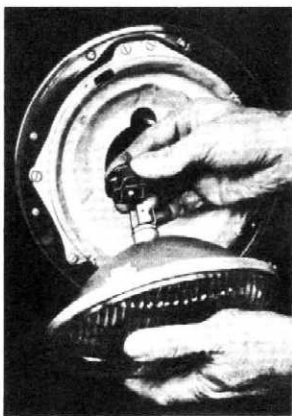

Fig. 40—Remove Reflector Plug
4. Remove the reflector plug from the reflector unit. (See Fig. 40.)